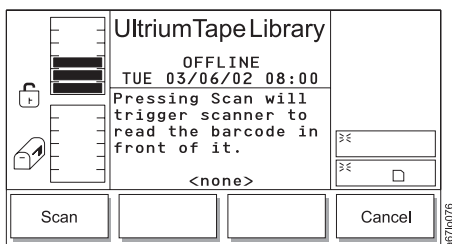

Figure 4-154. Reader Dialog
5. Press the button below the **Scanner** softkey. The Reader Dialog displays (see Figure 4-154).